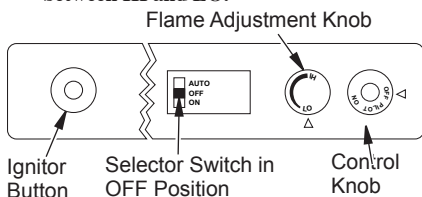

Figure 27 - Control Knob and Ignitor Button Location (Shown as Supplied, No Control Options)
4. Press in and turn control knob clockwise  to the OFF position (see Figure 27).
5. Wait five (5) minutes to clear out any gas. Then smell for gas, including near the floor. If you smell gas, STOP! Follow "B" in the safety information, column 1, page 19. If you don't smell gas, go to the next step.
6. Press in and turn control knob counterclockwise  to the PILOT position. Press in control knob for five (5) seconds (see Figure 27).